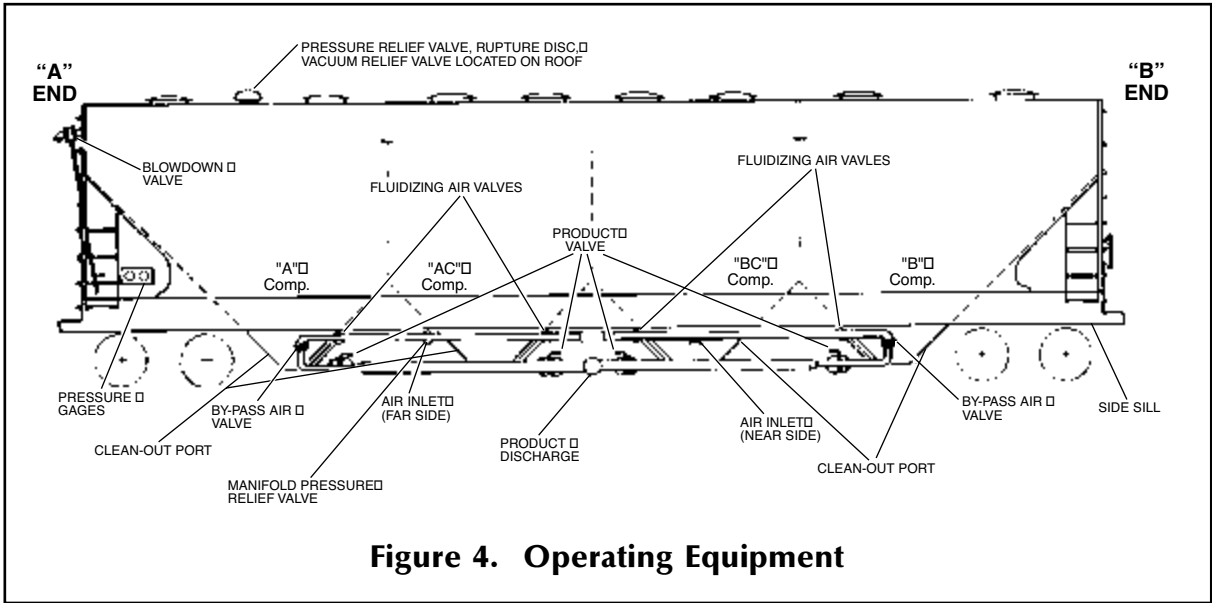
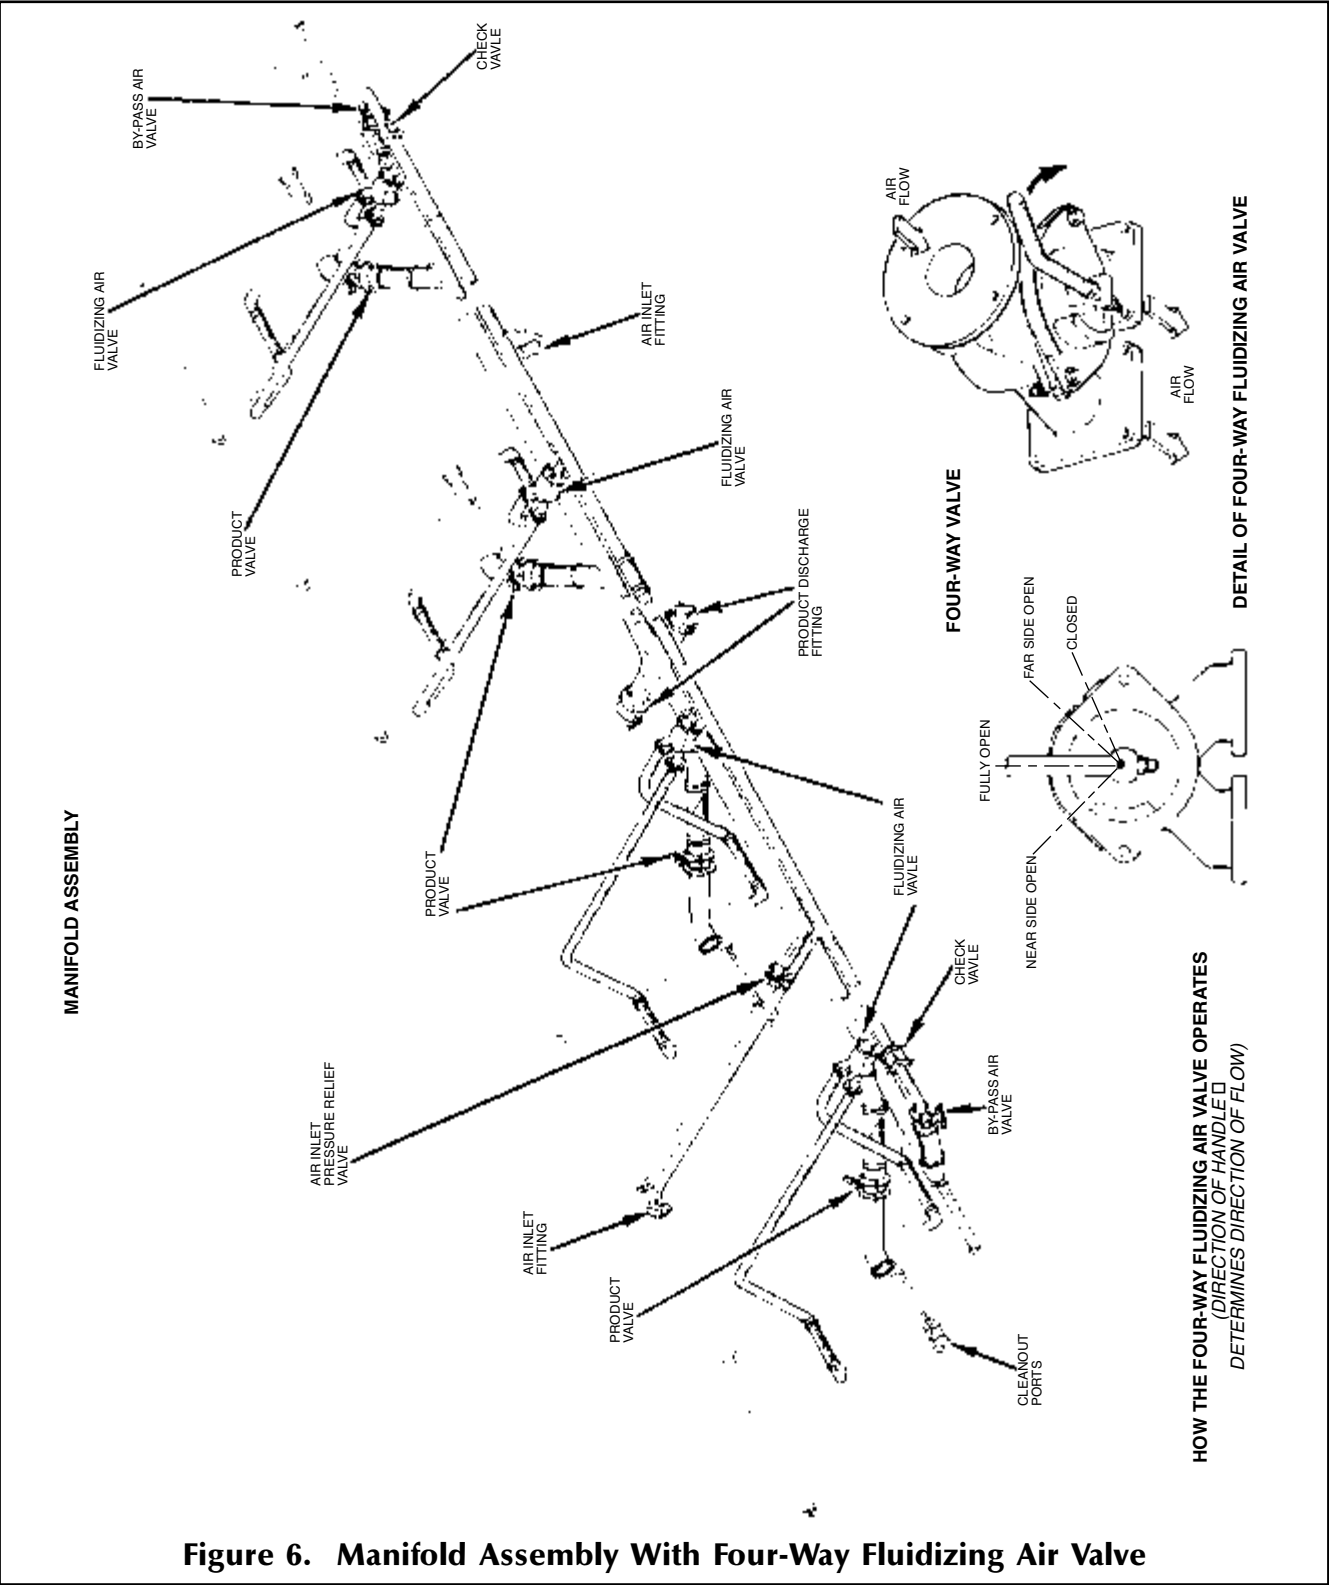

Figure 4. Operating Equipment
Figure 6. Manifold Assembly With Four-Way Fluidizing Air Valve
1. **Pressure Relief Valves** (Refer to figures 4 and 6) - The car is equipped with a pressure relief valve on the “A” end of the car body that is set to open at 14.5±0.5 psig. The car is also equipped with a pressure relief valve on the air inlet manifold (see figure 6) which is set to open at 16± 0.5 psig.